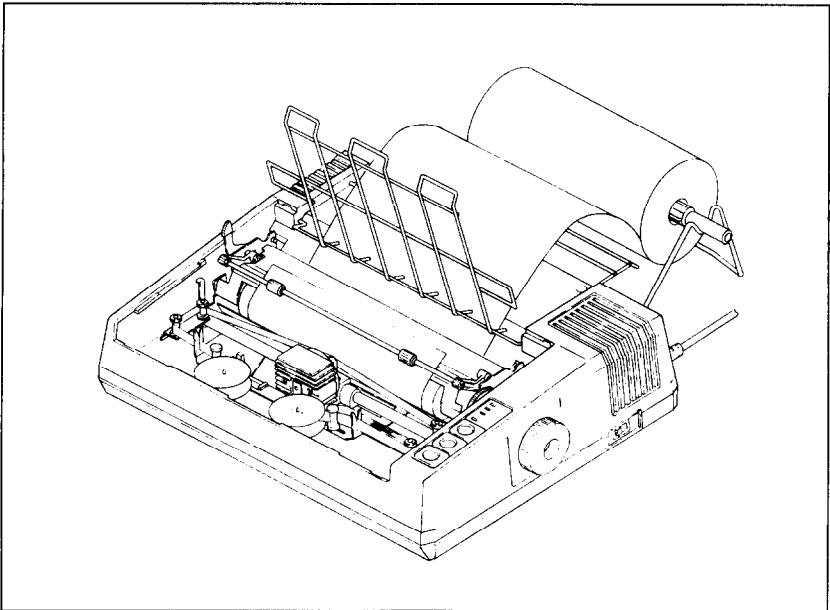

Figure 1-7. Inserting roll paper into Delta is similar to loading single sheets.
5. Pull the paper separator upright (Figure 1-7).